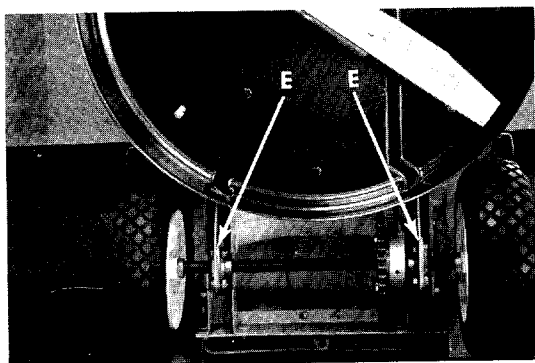

FIGURE 19. LUBRICATION
- d. **Rear Axle Bearings.** Lubricate the rear axle bearings after every 25 hours of operation with SAE 30 oil. Wipe up excessive oil with a rag. See figure 19.
- e. **Chain.** Remove the chain once each season, clean in kerosene, dry and lubricate with a rag saturated in SAE 30 oil. See figure 19.
Step 5. Lubricate all lubrication points indicated in figure 19; then wipe the entire machine with an oiled rag in order to protect the surfaces.